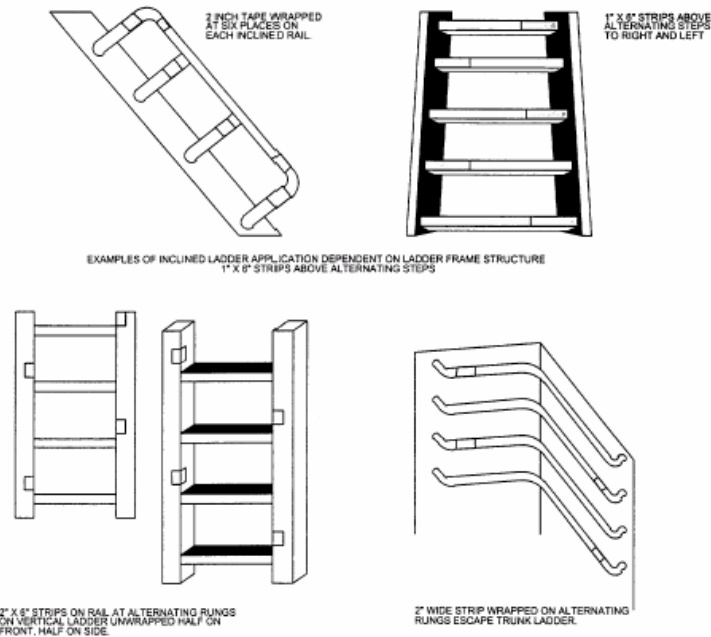

Figure 4
m. Inclined ladders are to be marked by applying photoluminescent strips on the inner frame, alternating sides with each step. The handrails will be marked with six bands wrapped on each side, as shown in Figure 4. Ladders having folding-leaf ladder chutes installed are to have alternating strips applied to the chute when in the stowed position. Ladders leading to hatches which open to weather are to only have photoluminescent material applied half the distance from the bottom of the ladder to avoid being visible when the hatch is open.
n. Vertical ladders are to have photoluminescent strips applied to both rails along the entire vertical length, alternating sides with each rung, also shown in Figure 4. Vertical ladders leading to scuttles that open directly to weather are to be marked only to midpoint of the ladders' vertical length from the bottom of the ladder. Wrap-around escape trunk ladders will be marked with a band of material wrapped around the ends of alternating rungs.